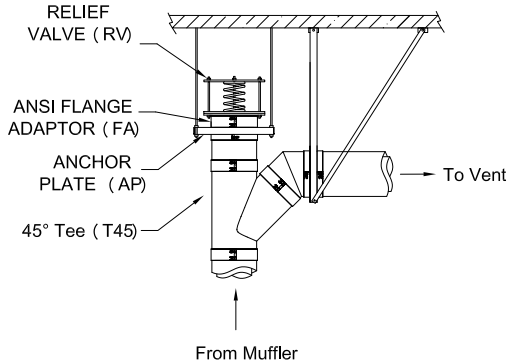
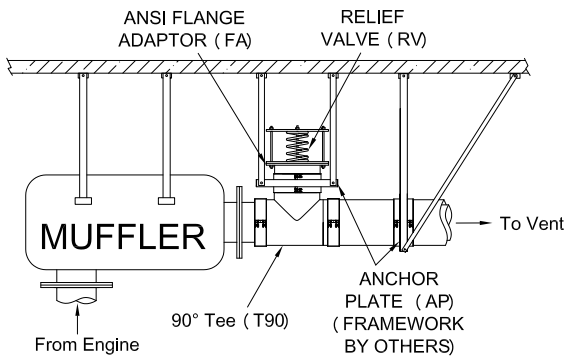

Figure 75b - Typical installations with a 45° Tee and a ANSI Flange Adaptor (FA)
Figure 75c - Typical installations with a 90° Tee and a ANSI Flange Adaptor (FA)
1. The Relief Valve (RV) should be located in the beginning of the system.
2. The orientation of the Relief Valve must be positioned upright, as shown on the Figure 75b with a 45° Tee (T45) or on Figure 75c with a 90° Tee (T90).
3. The Relief Valve must be connected to our ANSI Flange Adaptor (FA). Bolts, washers, nuts, and gasket (supplied by others) will provide a complete gas tight connection to the 125/150 lb. ANSI Flanged Flange Adapter.
5. The Relief Valve (RV) must be supported independently of the rest of the exhaust system. The best method to accomplish this is to locate an Anchor Plate (AP) support at the joint between the ANSI Flange Adaptor (FA) and the adjacent Tee (T45 or T90). It is crucial that the Anchor Plate (AP) is properly secured to building structures so that it can withstand the forces generated in case of delayed fuel ignition.